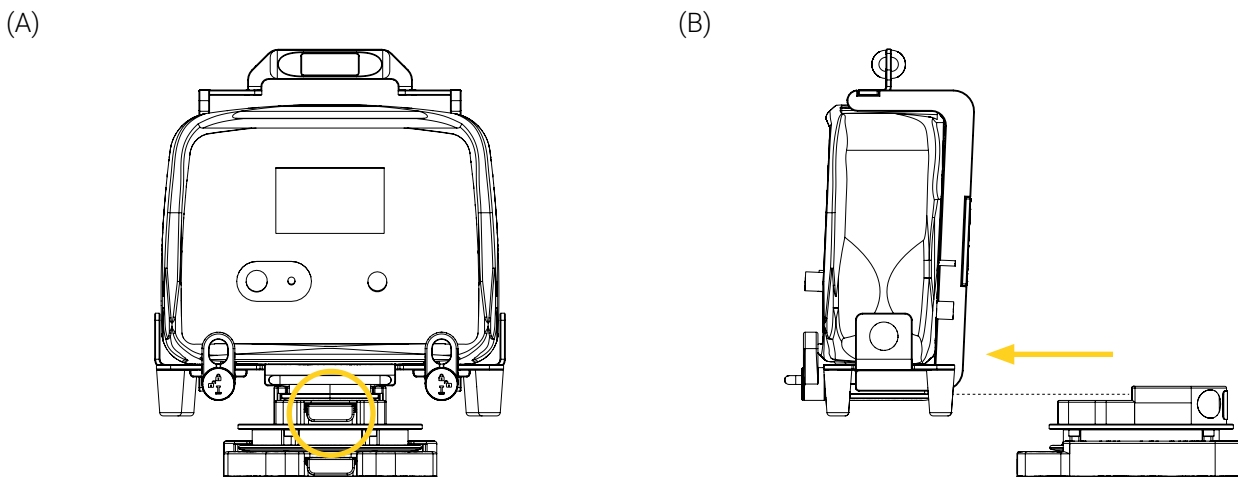
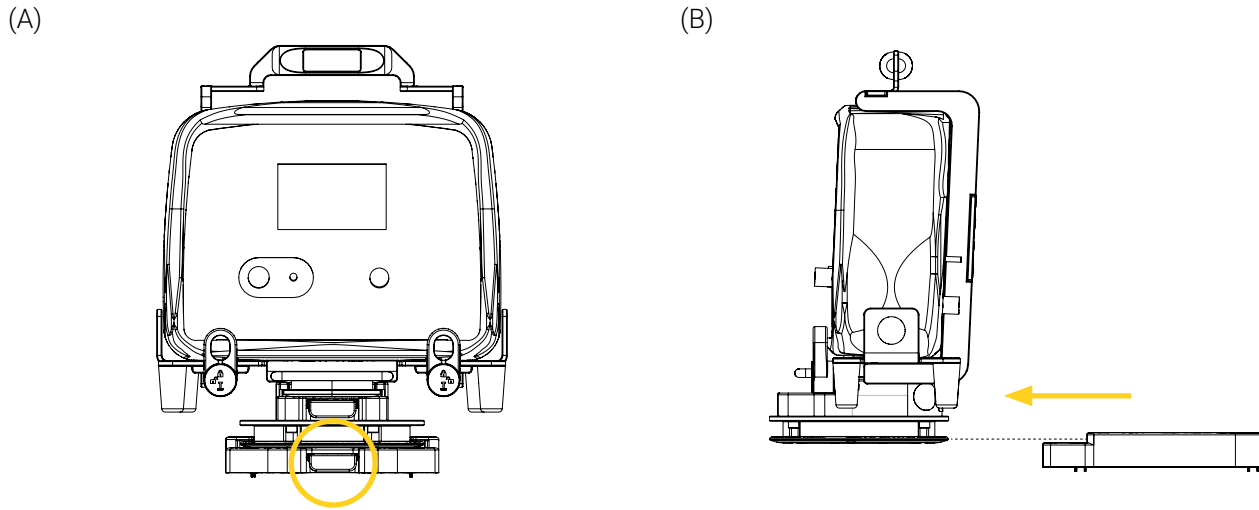

Figure 17: Removing the mounting bracket from the Surface Converter Pro
Figure 18: Removing the mounting bracket from the Standard Surface Base
1. Press and hold the quick release button located at the front of the mounting interface (Figure 17)/mounting system (Figure 18), then pull the BP310 – FL out of the base horizontally using the front handle. Refer to the Surface Converter Pro and the Standard Surface Base user manuals if needed.